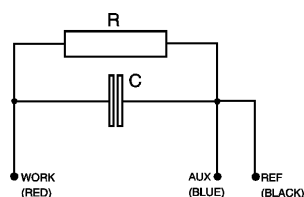

Fig. 5. Dummy cell connection.
3. Connect a dummy cell (see Fig. 5).